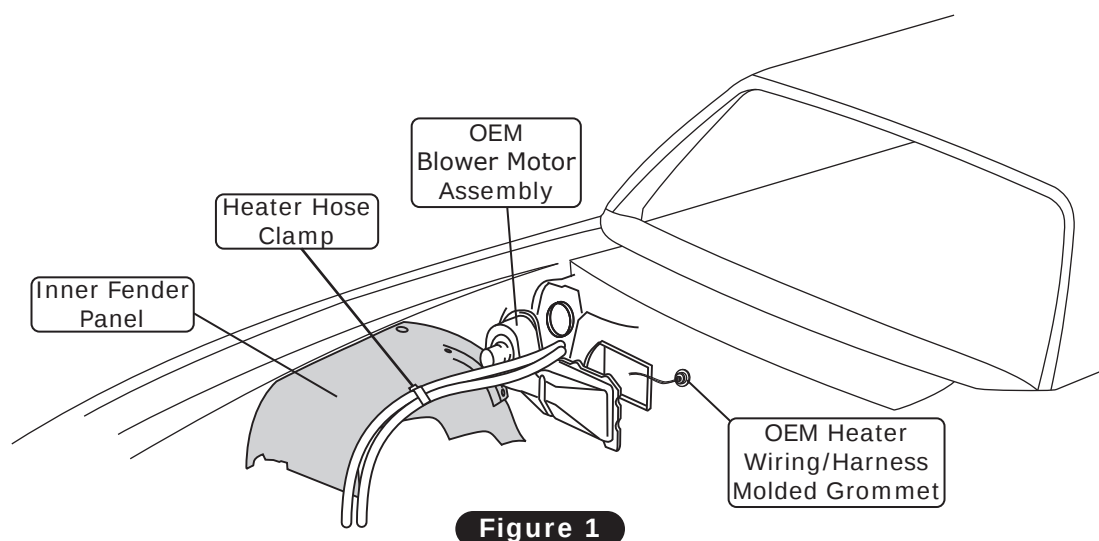

Figure 1
6. Remove the OEM heater wiring/vacuum harness molded grommet (See Figure 1, below).